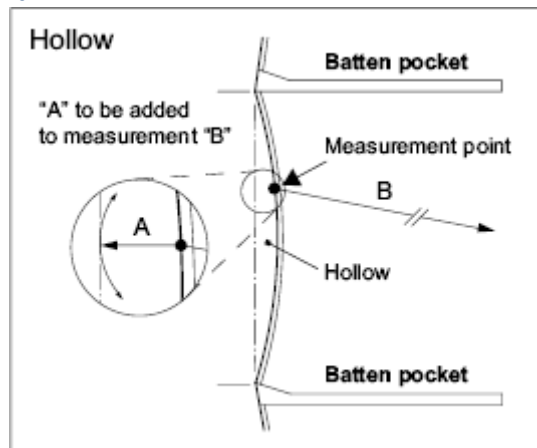

Fig. 2 Hollows at Width Measurement
30cm arcs at 480 mm, 995 mm, 1630 mm and 2130 mm for upper leech,  $\frac{3}{4}$ ,  $\frac{1}{2}$  and  $\frac{1}{4}$  widths respectively). If the sail presents a hollow between the Batten Pockets (common case in the 420, especially for the upper and  $\frac{1}{2}$  widths) remember to add the difference between the straight line and the hollow to the width measurements taken (see fig. 2)
- c) The second assistant shall check that the leech length is within the limit and then read the exact number on the grid where the clew point rests. Without moving the sail, the leech must be marked at the same number positions on the other grid panels. A quick look at any leech hollows shall be taken at this stage. If the hollow is considerable take a long Batten and add the hollow as shown in fig. 2. Also mark the Upper leech point at 480 mm